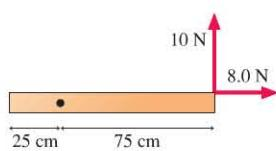

FIGURE P7.12
12. What is the net torque of the bar shown in Figure P7.12, about the axis indicated by the dot?